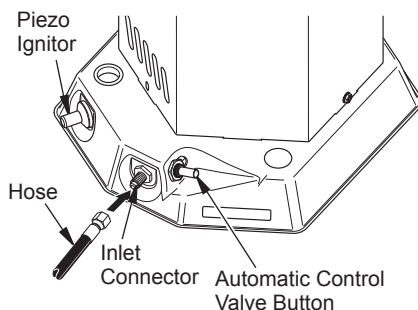

Figure 3 - Hose and Inlet Connector, Automatic Control Valve Button and Piezo Ignitor Button Locations
2. Connect hose to inlet connector (see Figure 3). Tighten firmly using a wrench.
5. Push in and hold automatic control valve button (see Figure 3). Push and release piezo ignitor button. Keep pushing piezo ignitor button until the burner lights. Hold control knob down for a maximum of 10 seconds while attempting ignition. If heater does not light, release control knob and wait 30 seconds. Repeat step 5 to start heater. **Note:** Keep hands and face away from outlet (around top of shell) of heater while attempting to start heater. After ignition, hold control knob down for approximately 30 seconds. This activates the automatic control system.